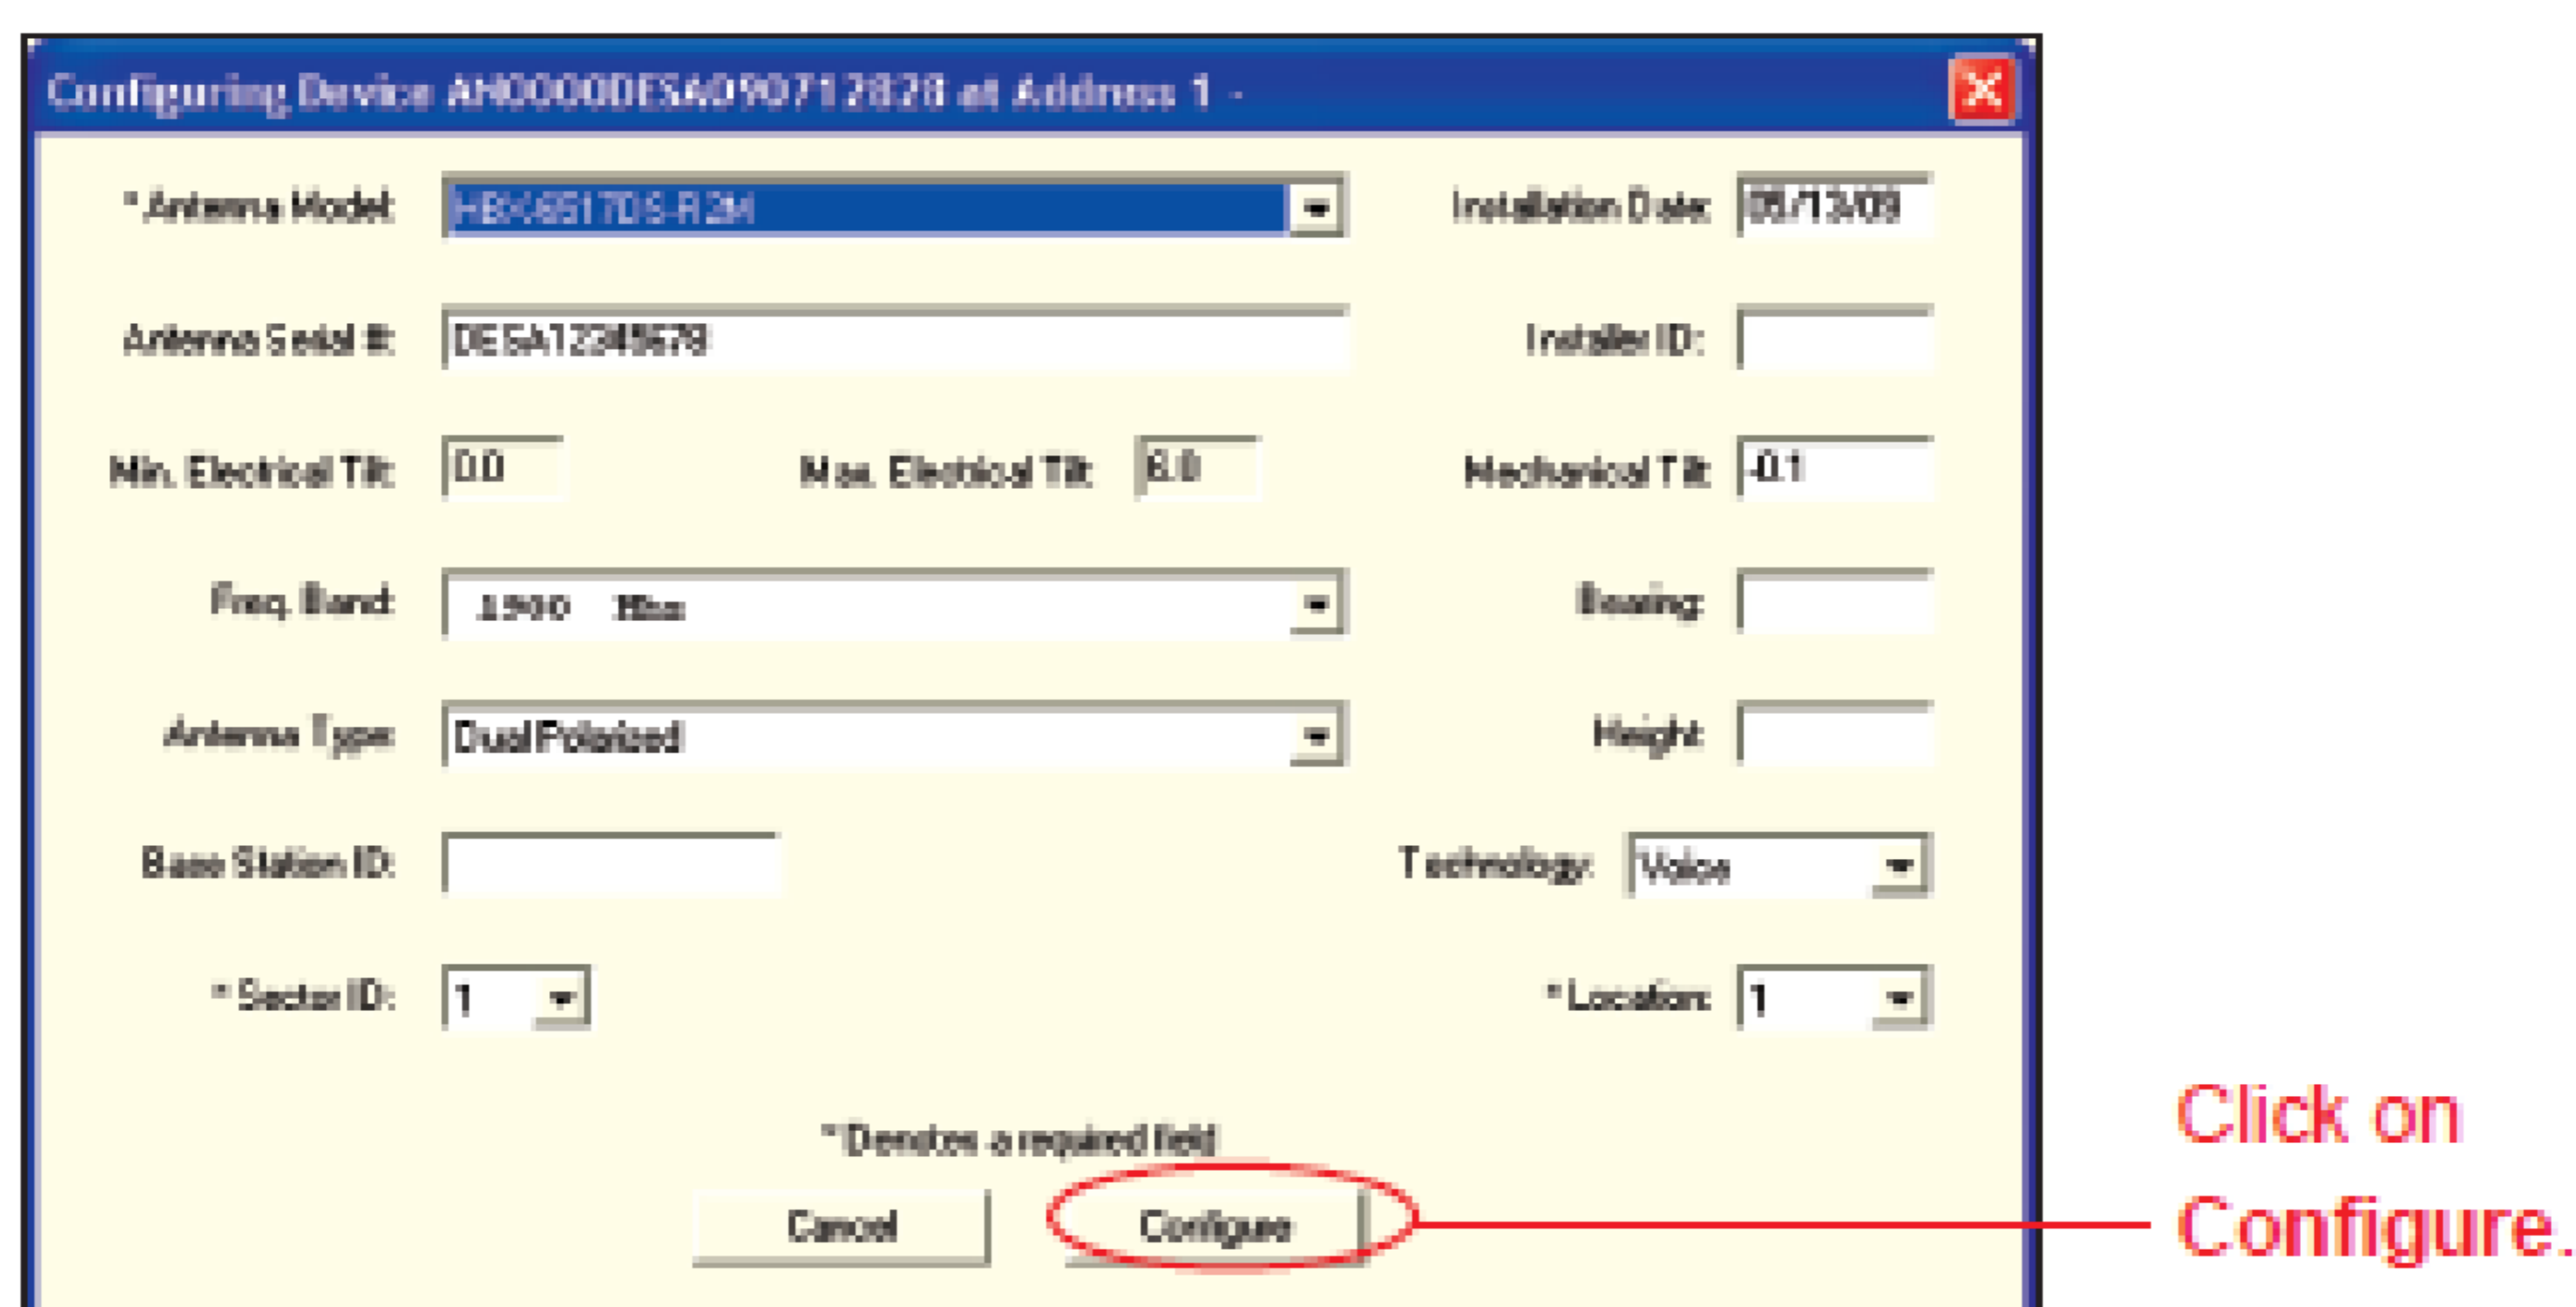

Figure 3-4. Configuring A Selected Device Prior To Operations.
- To configure the selected device, make the appropriate selections and text entries in the **Configuring Device** dialog (Figure 3-4).
- After the configuration data is entered, click on **Configure** (Figure 3-4).